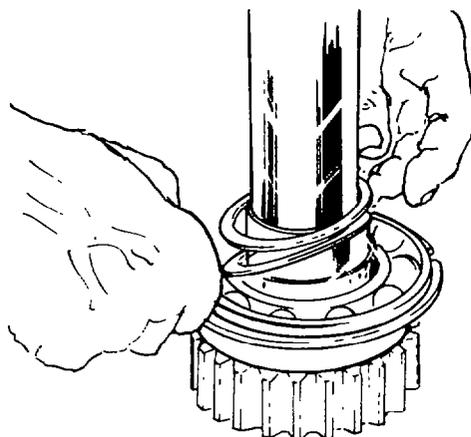

Fig. 189 — Installing the Spirolox Snap Ring
- c. Install the bearing retaining Spirolox snap ring (see fig. 189).